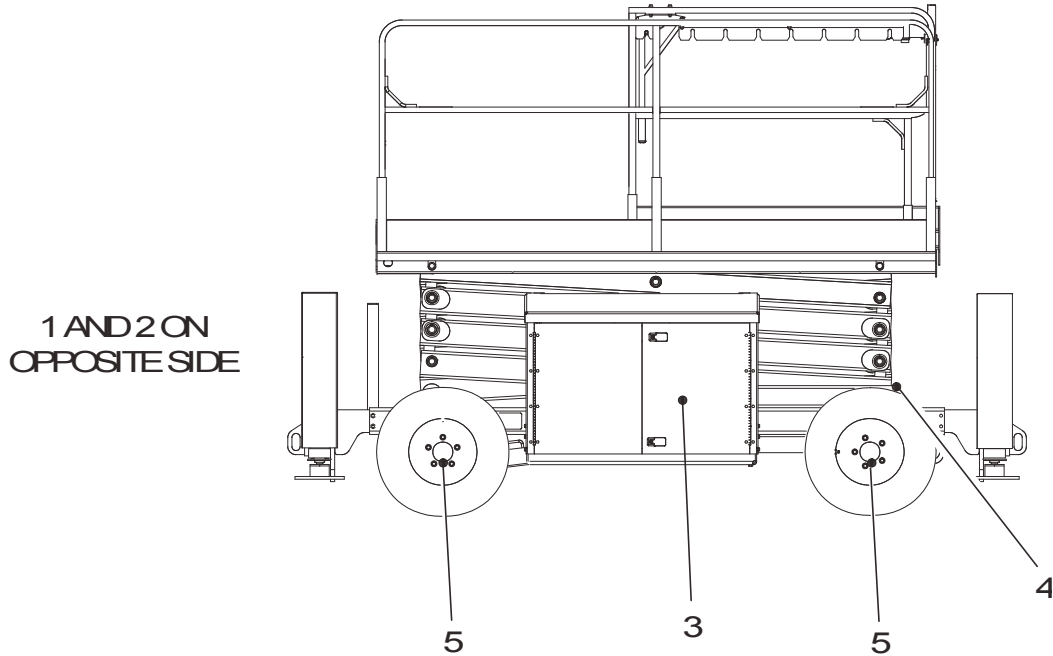

Figure 6-3. Lubrication Diagram
**NOTE:** The following numbers correspond to those in Figure 6-3., Lubrication Diagram.